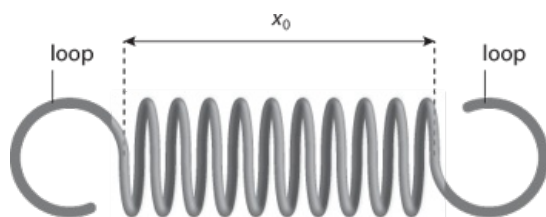

Figure 1.2: Spring with loops at ends.
- 1 Measure the length x_0 of the coiled section of an unextended spring as shown in Figure 1.2 and write your answer in the Results section.